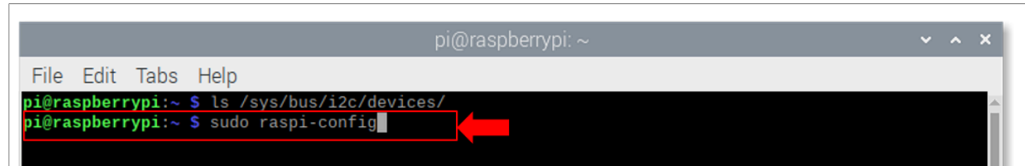

Figure 5. Open the Raspberry Pi software configuration tool
2. Open the Raspberry Pi software configuration tool, as shown in Figure 5: